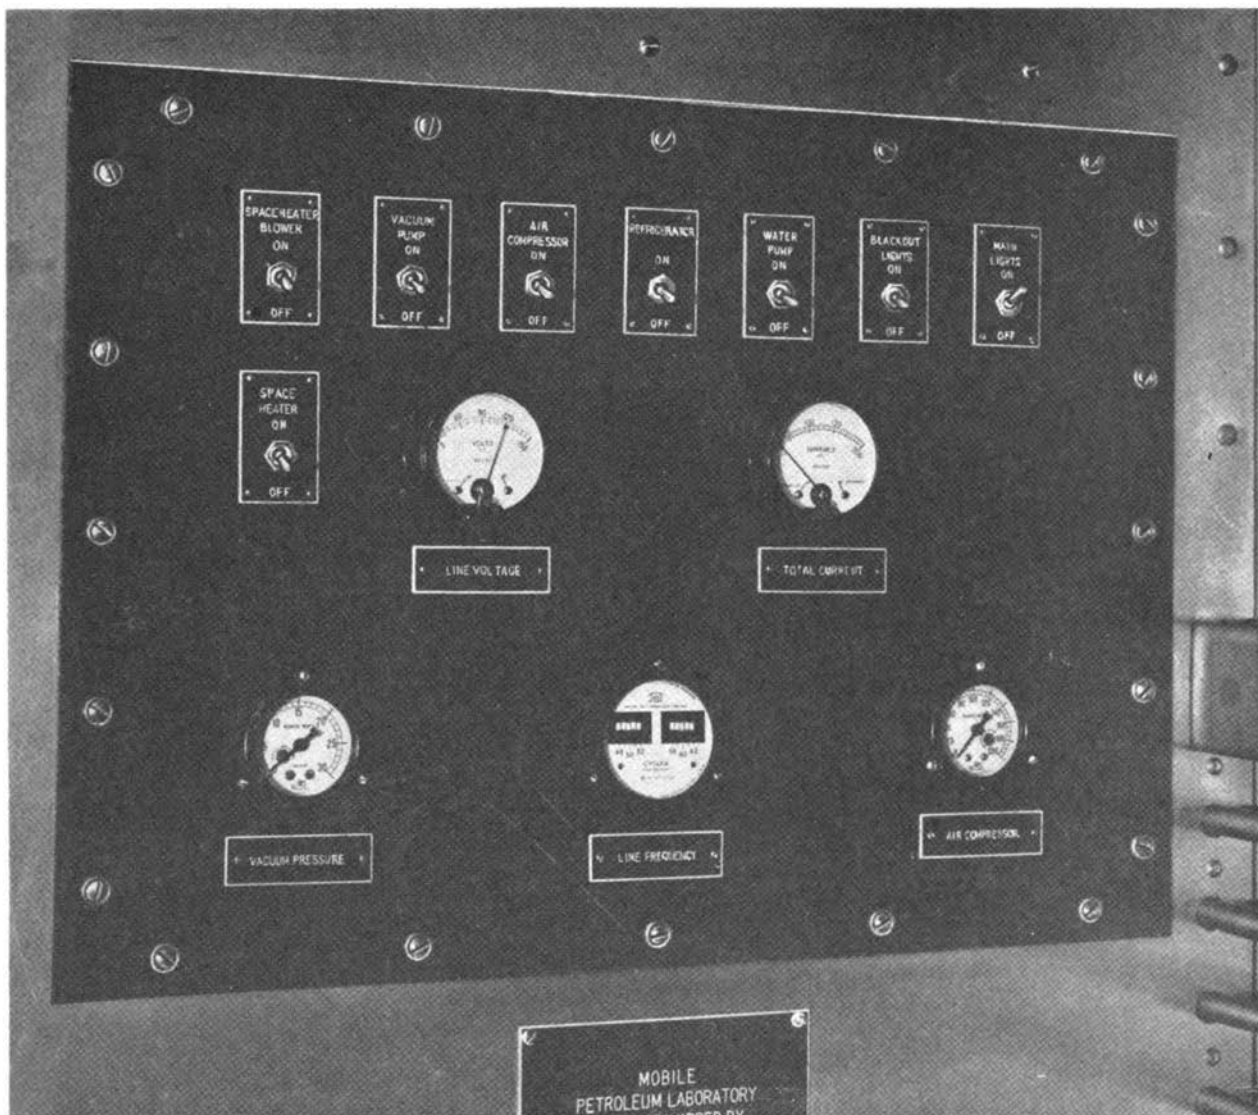

Figure 21. Main control panel.
e. Main Control Panel. The main control panel (fig. 21), located on the left rear wall of the laboratory compartment, contains controls and instruments for the laboratory utilities.
- (1) *Controls.* The control panel contains toggle switches for controlling space-
- (1) *Electrical controls.* Operation of the water pump is controlled by circuit breaker 7 and the ON-OFF switch on the main control panel (fig. 21). The motor starter-relay box (par. 29g) is mounted on the utility compartment wall beside the pump.